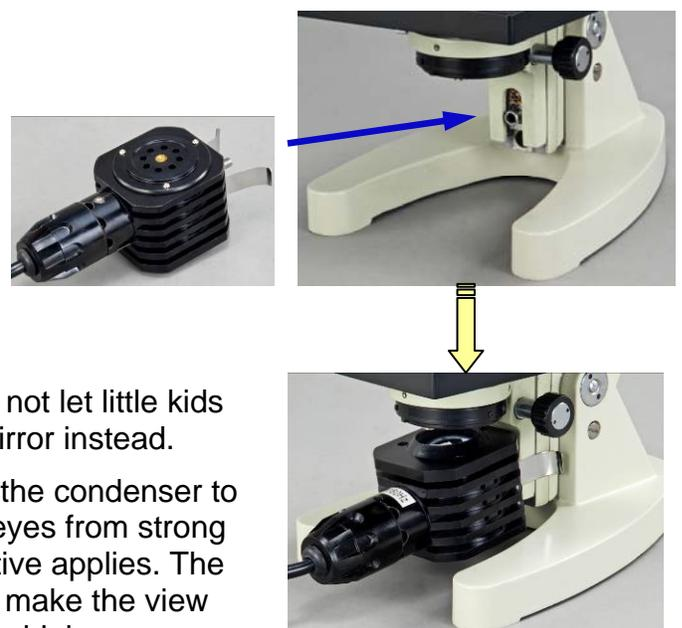

Fig. 6
- 1) Insert the illumination into the hole on the microscope base and plug the power cord to the power outlet (**Fig. 6**).